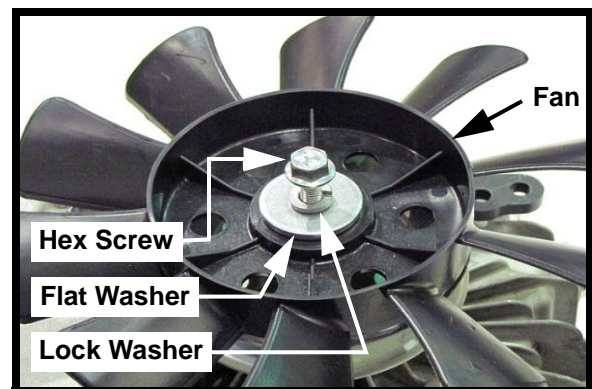

FIGURE 6
11. After installation of the K46 SLT Hydro Transmission Assembly, install the drive belt around the transmission drive pulley, then install the fan, flat washer, lock washer and hex screw as shown in Figure 6. Torque the hex screw to 70 -100 in. lbs.